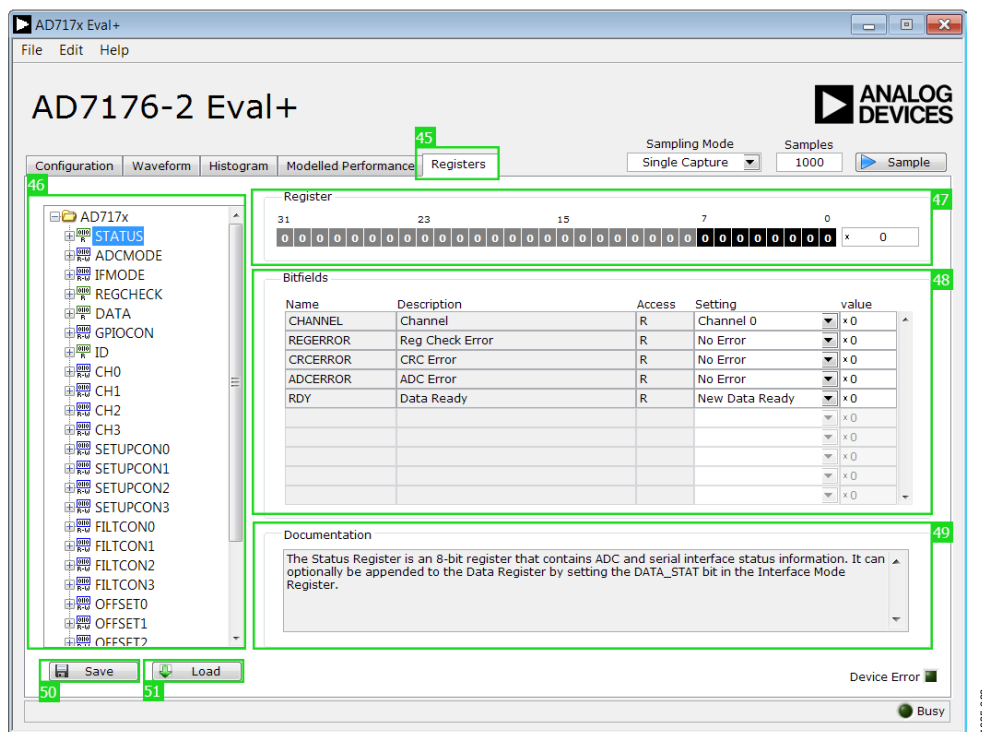

Figure 26. **Registers** Tab of the AD7176-2 Evaluation Software
Figure 26 shows the **Registers** (45) tab.
To exit the software, click the close button at the top right corner of the AD717x Eval+ software (see Figure 26).